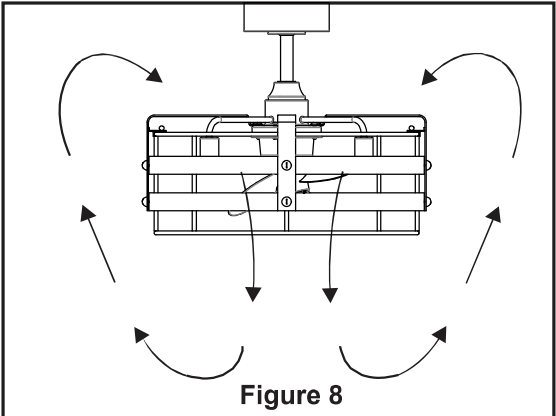

Figure 8
- Warm weather - (Forward) A downward air flow creates a cooling effect as shown in . (Figure 8) This allows you to set your air conditioner on a higher setting without affecting your comfort.